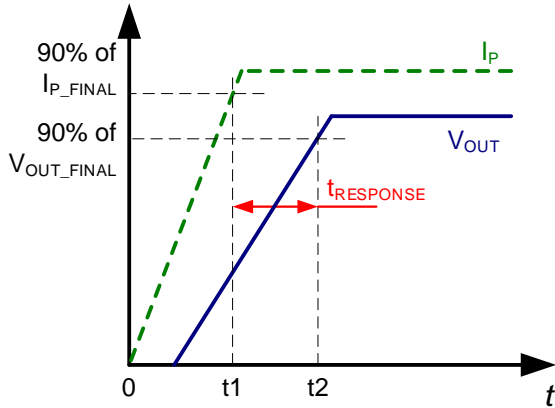

Figure 8: Response Time ($t_{RESPONSE}$)
- t_2 : V_{OUT} reaches 90% of its final value, as it corresponds to the applied primary current (see Figure 8).